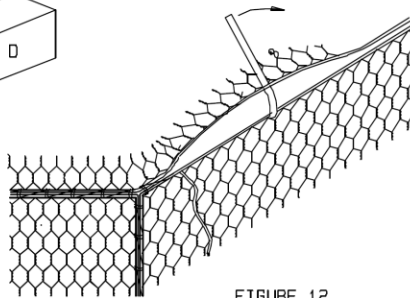

FIGURE 12
6. STRETCH THE LIDS TIGHTLY OVER THE FILLING USING A CROWBAR. SECURE THE CORNERS FIRST, BY MEANS OF THE THICK SELVEDGE WIRE PROTRUDING FROM THE LID CORNERS, TO ENSURE THAT THERE IS ENOUGH MESH TO COVER THE WHOLE AREA. SOME FILLING MAY HAVE TO BE REMOVED FROM THE TOP OF THE GABION BOX TO PREVENT THE LID FROM OVERTRAINING, THEN SECURELY WIRE IT TO THE TOPS OF THE SIDES, ENDS AND DIAPHRAGMS, USING THE ALTERNATE SINGLE AND DOUBLE LOOPS (FIGURE 12).